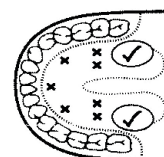

Figure 2
- a. **Oral Use:** Place thermometer under tongue as indicated by “V” position shown in Figure 2. Close your mouth and breathe evenly through the nose to prevent the measurement from being influenced by inhaled/exhaled air. Normal temperature between 35.7°C and 37.3°C (96.3°F and 99.1°F).